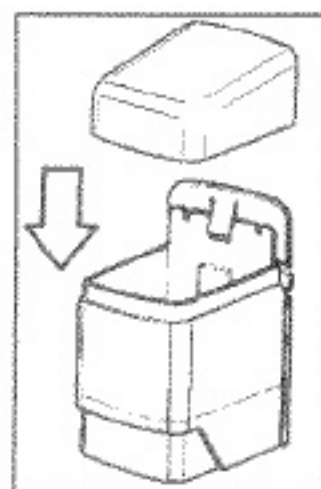

FIGURE 7
6. Snap top of unit into place (Figure 7).